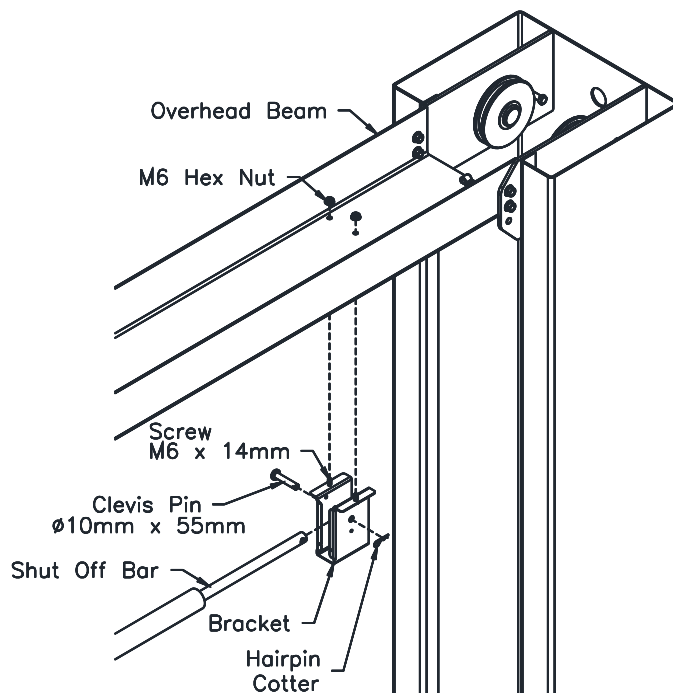

Fig. 6 – Overhead Bracket Idler Side
- 15) Install the Idler Bracket to the Overhead Beam using the rear set of holes on the Idler Side of the lift. **Fig. 6.** **Note the orientation of the Idler Bracket. The narrow slot needs to be facing towards the Power Column.** Slide the Shutoff Bar over the limit switch on the Power Side. Pin the Shutoff Bar to the Idler Side Bracket with the 10mm dia. x 55mm Lg. clevis pin & hairpin cotter.